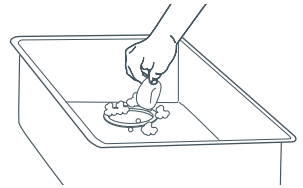

Fig. 8 Lubricate the rubber splash guard
- 9 Lubricate the top lip and angled surface of the rubber splash guard with liquid soap or petroleum jelly (fig. 8 ).